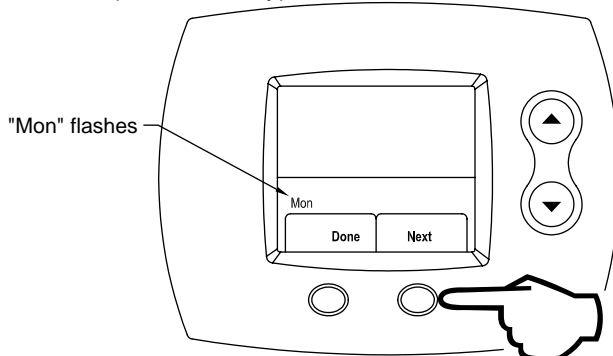

Figure 49
Step 2: Monday is flashing initially. Press the **RIGHT** (Next) button to proceed to the Wake Period for Monday. This is shown in Figure 49. When the remaining days of the week are to be programmed, the **UP** (increase day) or **DOWN** (decrease day) buttons must be used to change the day.